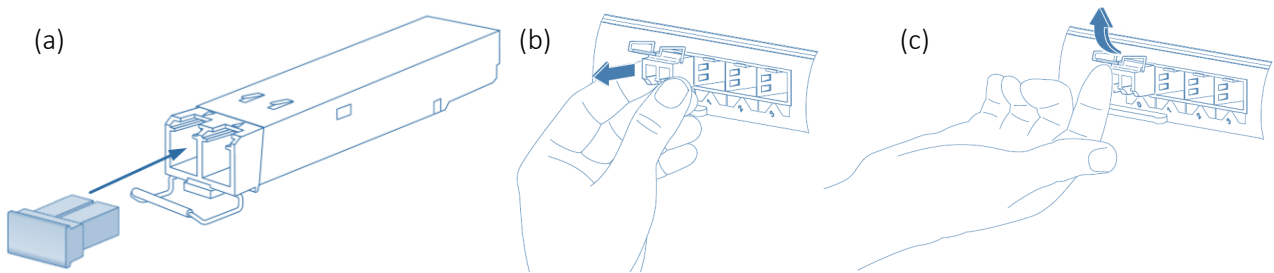

Figure 8 – Removing the SFP+ Module
4. Figure 8 (a).
6. Figure 8 (b).
8. Figure 8 (c).